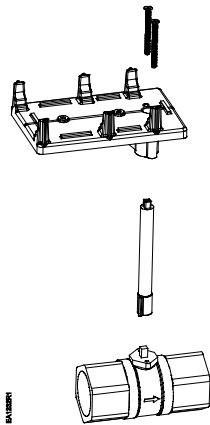

Figure 3.
1. Insert the ball valve bracket shaft through the bottom of the bracket. See Figure 3.
4. While holding the shaft in the appropriate orientation, assemble the bracket to the valve using the two M4 x 0.7 x 50 mm, or M4 x 0.7 x 53 mm screws, depending on your configuration. (See Figure 3.)